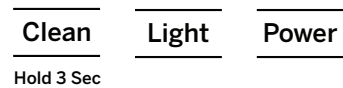

Figure 9
- 16. When complete, fill unit with fresh water and press the 'Power' button to start making ice. See figure 9.